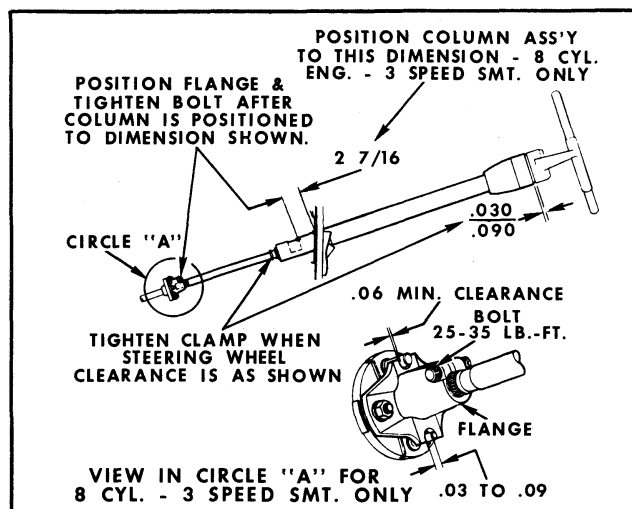

Fig. 11-81 Position for Housing
1. Install directional signal housing on steering column and position as shown in Fig. 11-81.